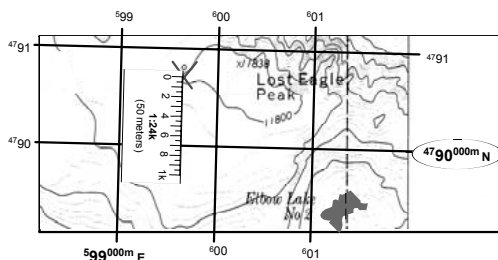

Figure 29
8. Rotate clear base until the "0" is at the 'X', and scale increases **down**. (Fig 29)